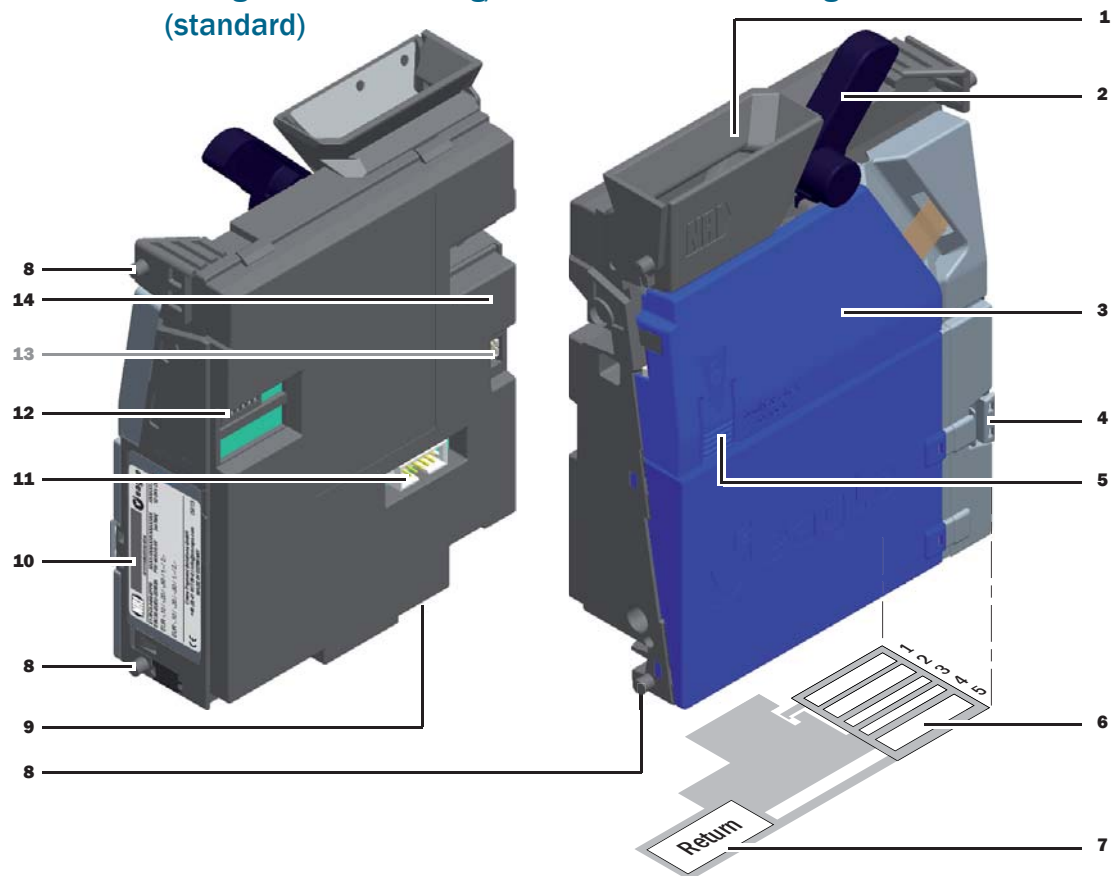
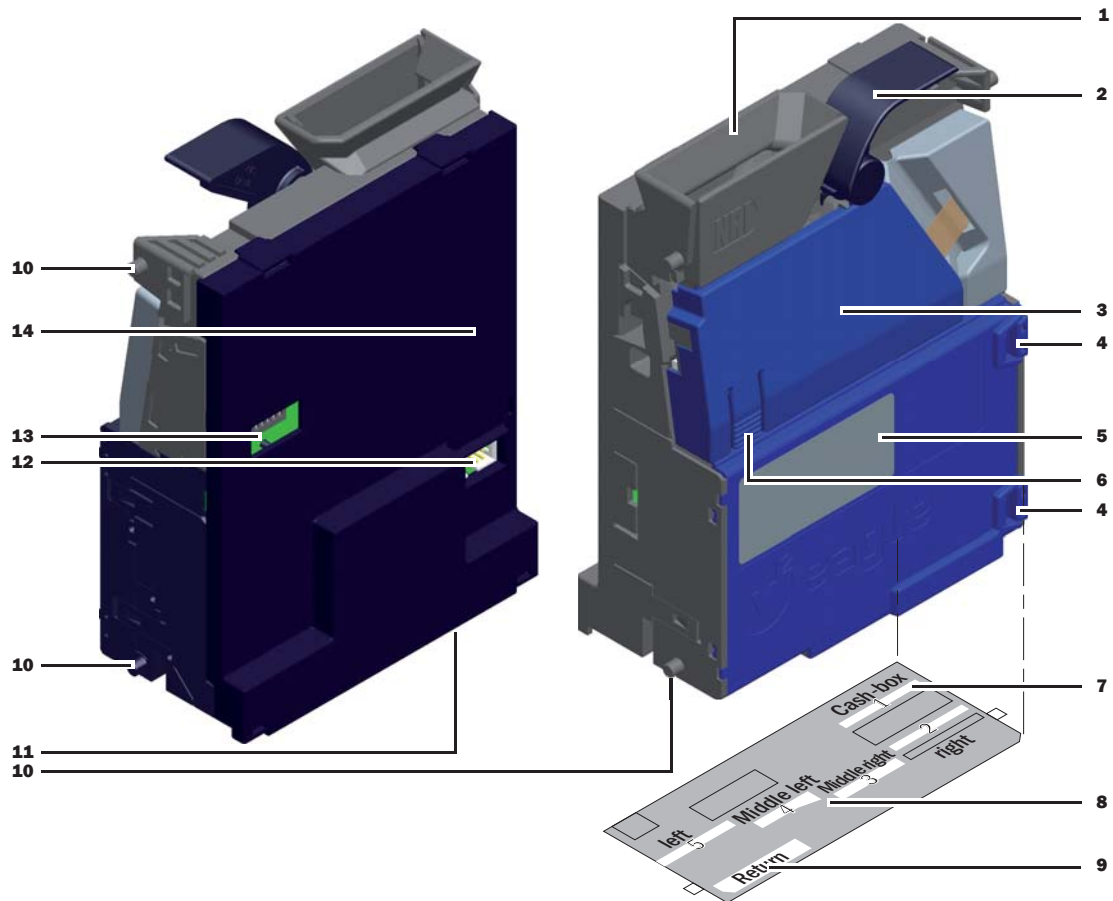
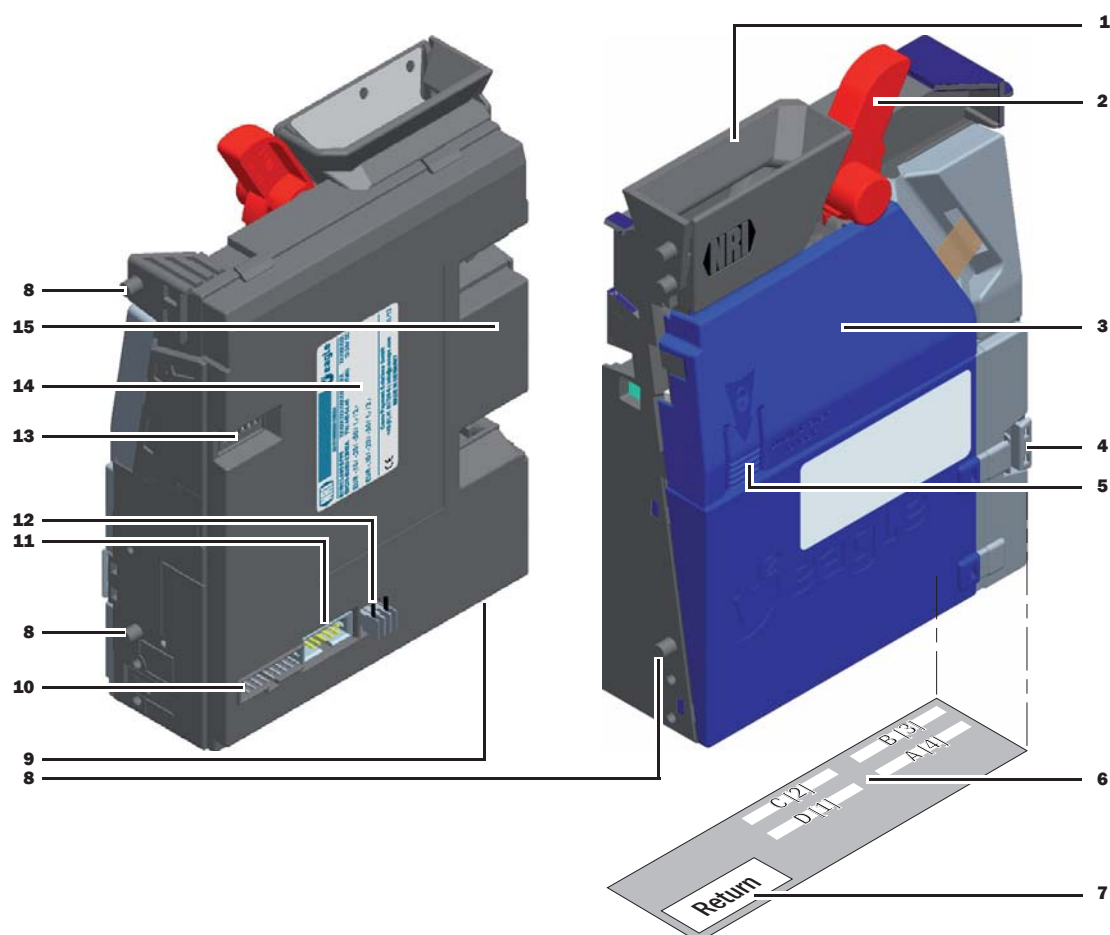

Fig. 1: Design – v2 eagle without sorting/with 5-fold in-line sorting mechanism
Fig. 2: Design – v2 eagle with 5-fold cross-way sorting mechanism
Fig. 3: Design – v2 eagle with 4-fold sorting mechanism
**[Fig. 1/2]**
The label of the coin validator [Fig. 1/10]/[Fig. 2/5]/[Fig. 3/14] contains all data defining the device such as device number and type, operating voltage and customer-specific currency and coin programming:
The coin validator has a switch block [Fig. 1/12]/[Fig. 2/13]/[Fig. 3/13] with six DIL switches S1-6 on the rear of the device. The DIL switches can be used to set certain device functions:
The return lever [Fig. 1/2]/[Fig. 2/2]/[Fig. 3/2] on the top of the device is operated using the return button on the machine when coins which have been inserted are to be returned or e.g. a jam caused by coins which have become stuck needs to be removed. Actuation of the return lever opens the measurement and validation area of the coin validator so that all objects in the coin validator are directed to the return area.
On the rear side, the coin validator is equipped with a red status LED [Fig. 1/14]/[Fig. 2/14]/[Fig. 3/15] indicating the operating state of the v2 eagle:
For details of the machine and optional sorting and BCR interface [Fig. 1/11]/[Fig. 2/12]/[Fig. 3/10-12] please refer to Chap. "5 Function", p. 22 and Chap. "10 Technical data", p. 41.